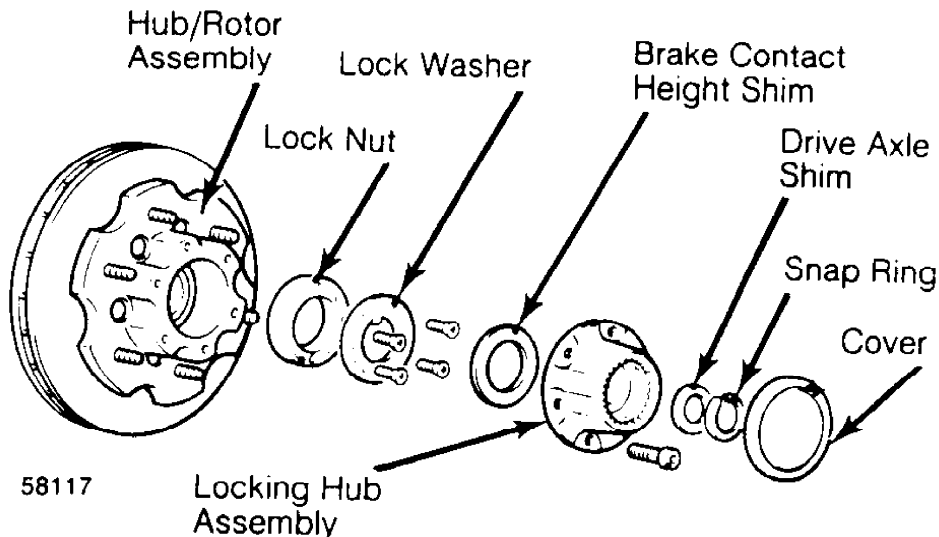

Fig. 2: Exploded View Of Automatic Locking Hub (Typical)
1) Remove locking hub assembly. See LOCKING HUB under REMOVAL & INSTALLATION. Remove lock washer screws. Remove lock washer. See Fig. 2. Remove brake caliper.
Install drive axle shim and snap ring. See Fig. 2. Measure clearance between shim and snap ring. If clearance is not .016-.028" (.40-.70 mm) replace shim to bring clearance into specification.